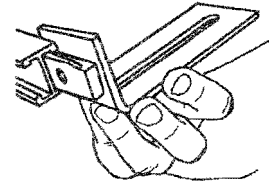

Fig. 4
4. Slide the T-Nut into the front side of the channel, as shown in Fig. 4. Make sure the bracket's slotted side faces to the left.